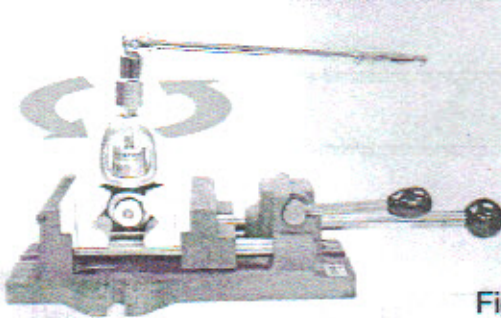
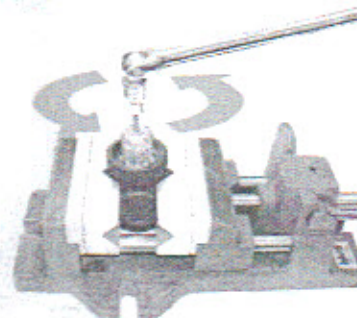

Figure 4
Figure 5
- 1) Remove yoke screw. With the first stage body stabilized in a bench vice with soft jaws, use the 1" yoke nut socket, a 3" long x 3/8" drive extension and breaker bar to loosen and remove the yoke retainer (fig. 4). The DIN assembly is loosened and torqued using a 6mm hex key socket (fig. 5).